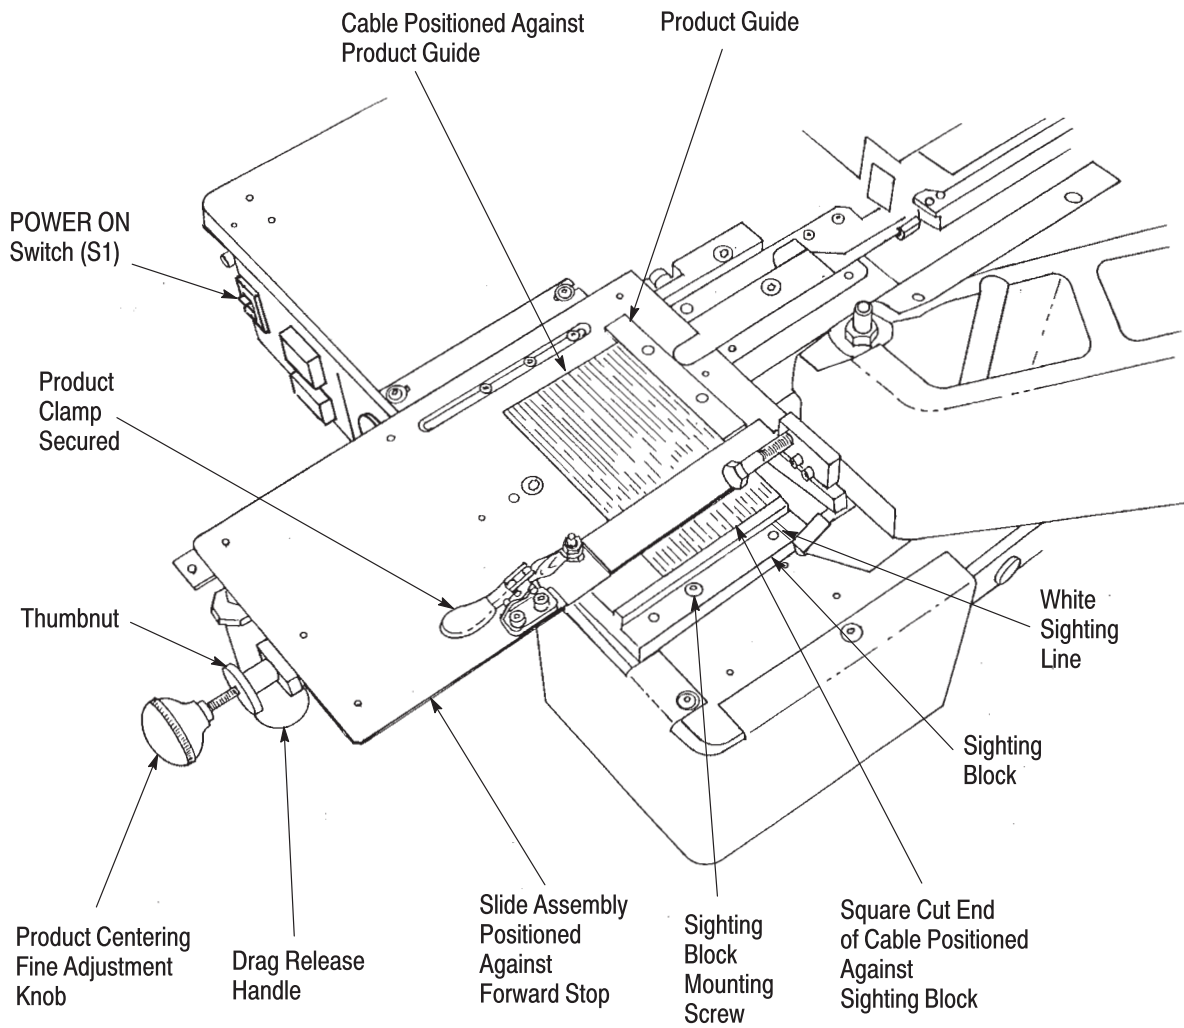

Figure 13
1. Position slide assembly against the forward stop, as shown in Figure 13; then depress the PWR ON switch (S1), to light the alignment lamp on the sighting block.
5. Observe the relationship of the conductor under the anvil. To center the conductor under the anvil, loosen the thumbnut (see Figure 13) and rotate the product centering fine adjustment knob. Rotate CLOCKWISE to move the slide assembly toward the back of the machine, COUNTERCLOCKWISE to move it toward the front of the machine. One revolution moves the slide assembly approximately 0.25 mm [.010 in.]
1. With the slide assembly pulled against the forward stop (as shown in Figure 13) and a cable clamped in position in the slide assembly, loosen the mounting screw on the sighting block and adjust the block so that one of the locating lights is in a position centered between two conductors or under one conductor and symmetrically “eclipses” it.